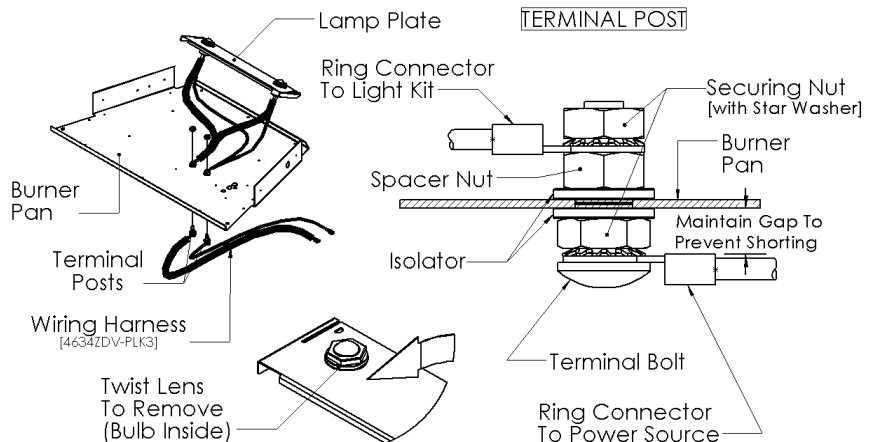

Figure 1 - Lamp Plate installation and terminal post diagram.
1. Remove the Grate Bar assembly (Fig. 1). If Rocks are to be used, skip to step 4.
Rock Setup (Fig.1)